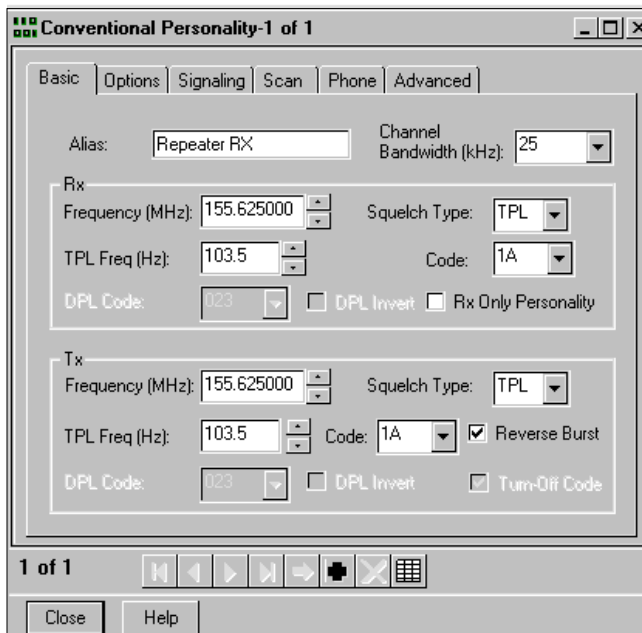

Figure 8-11. Conventional Personality, Basic, Receive Radio
23. Select the transmitter “Squelch Type:” based upon the type of operation that is required (CSQ, TPL or DPL). Your screen should appear similar to Figure 8-11.